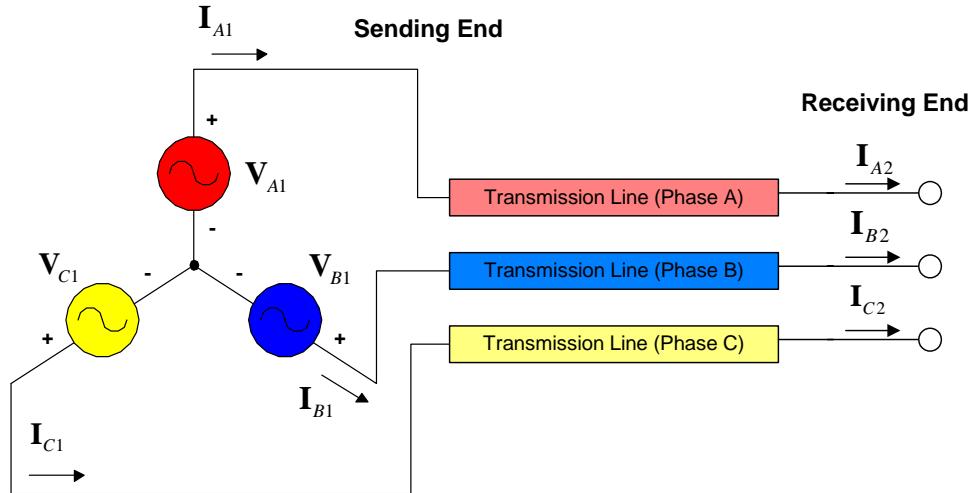

Figure 2: Open Circuit on Receiving Side ( $I_2=0$ )
1. Make sure the power supply is off and the visible disconnect switch is open. Set each of the reactors in the transmission line to the 24 ohm tap setting. Make sure that the receiving end of the transmission line is left as an open circuit. See Figure 2 below: